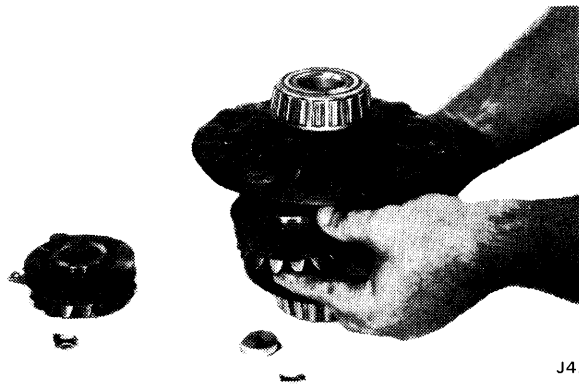

Fig. 10-66 Removing Side Gear and Clutch Pack
(18) Retain upper side gear and clutch pack in case by holding hand on bottom of rotating tool while removing forcing screw. Remove rotating tool, upper side gear, and clutch pack.
(19) Remove differential case from axle shaft. Invert case with flange or ring gear side up and remove step plate tool, lower side gear, and clutch pack from case. Remove retainer clips from both clutch packs to allow separation of plates and discs (fig. 10-66).